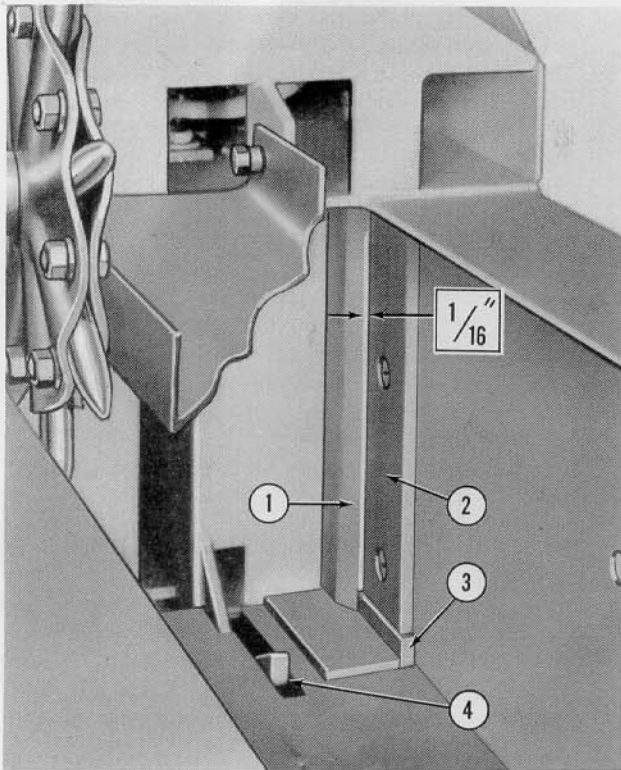

Figure 20
Plunger Runners and Knife: To provide a clean cut and to prevent strain on the baler plunger, a clearance of approximately $\frac{1}{16}$ inch should be maintained between the plunger knife (1), Figure 20, and the stationary knife (2). Both knives should be removed and sharpened as required, maintaining the original bevel as near as possible.
Shimming Plunger Runners: When plunger runners and the upper and lower stationary wear strips (see 3, Figure 20) become worn to such an extent that there is danger of the plunger and stationary knives striking, it will be necessary to remove the plunger from the baler and shim all plunger runners to compensate for vertical and/or horizontal wear.
2. Depress the lower hay dogs (see 4, Figure 20) and lock them out of the bale chamber.
The upper and lower stationary wear strips (see 3, Figure 20), should extend approximately $\frac{1}{32}$ " beyond the face of the stationary knife (2). Wear strip shims (Part No. 148356) are available for use behind the stationary strips. Proper shimming of the wear strips is necessary to prevent the knives from striking.